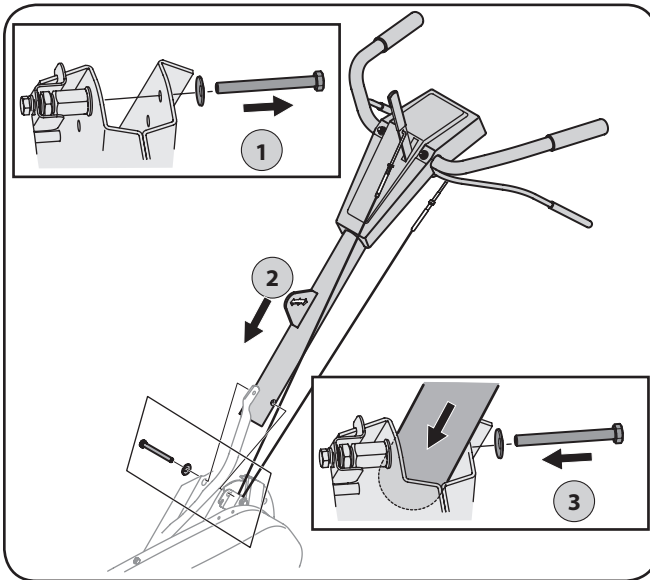

Figure 3-3
4. Remove the hex bolt and cupped washer from the right side of the frame. Hold the cable guide bracket on the left side of frame as it will fall when the bolt is removed. Step 1 in Figure 3-3.
5. Insert the handle into tiller frame as shown. Step 2 in Figure 3-3.
6. Insert the bolt through the cupped washer, frame, handle and into the cable guide bracket (note the notch in the cable guide bracket goes over the flange on the frame.) Step 3 in Figure 3-3.